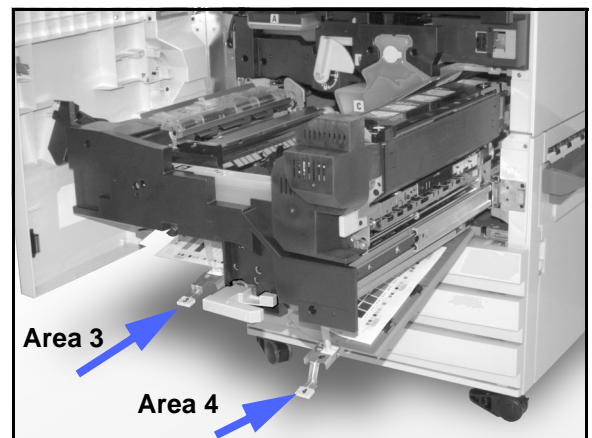

Figure 13: Duplex Path Areas
- 6** In the Duplex Path, areas 3 and 4, press the handles down gently to release the Aligner Baffle (left handle) and Duplex In baffle (right handle), as illustrated in Figure 13.